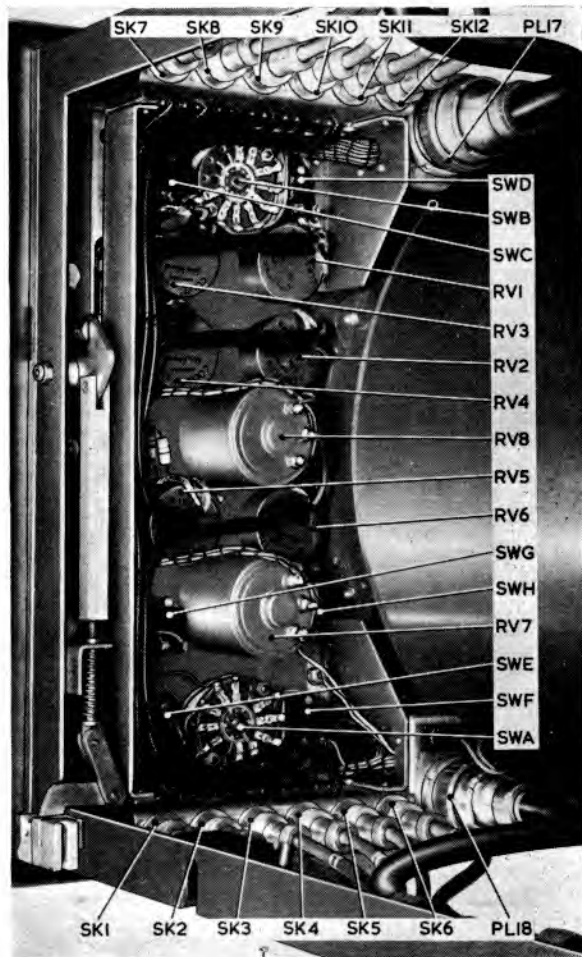

Fig. 3. Rear of control panel
15. A rear view of the control panel, showing the component layout there, is given in fig. 3.